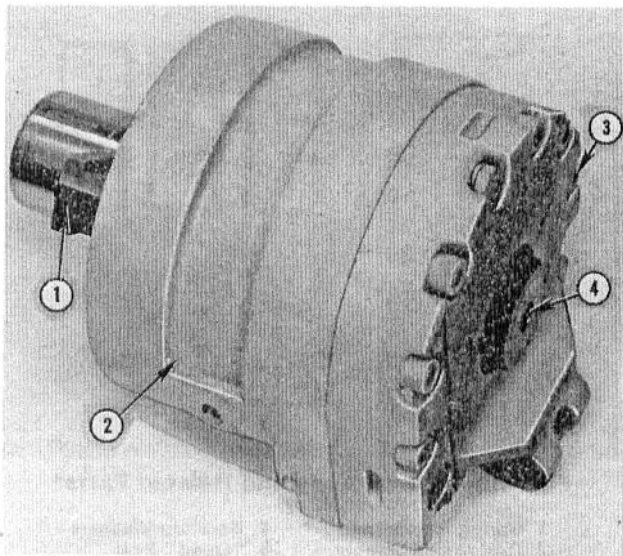

Fig. 34 — Vaned Shaft "Started" From Barrel
a. Carefully tap protruding end of vane shaft to start it from the lower end plate, see Fig. 34.